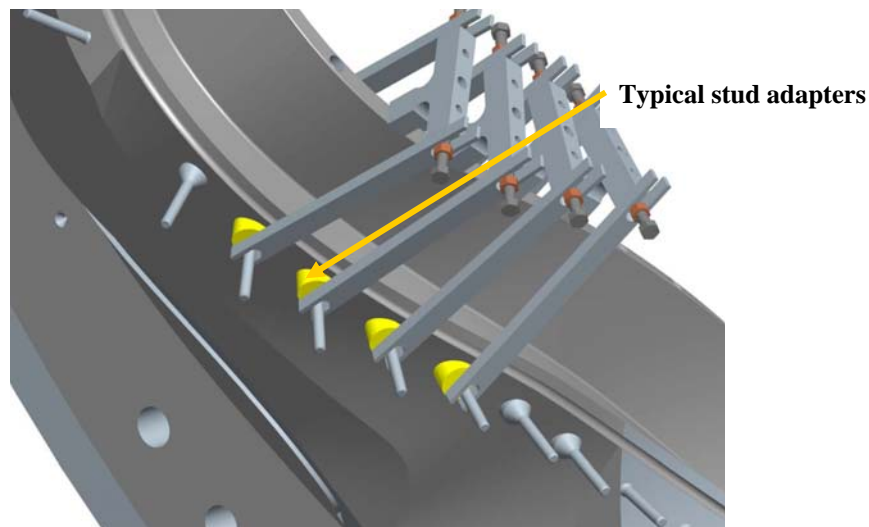

Figure 10- Typical Stud Adapters
- On some castings, due to the geometry of the winding form, it may be necessary to add stud adapters [Type C] or prosthetic section [type A and B] directly to the casting prior to the installation of studs. This information will be identified on the appropriate casting drawings. These adapters shall be Tig welded directly to the casting. See Figure 10- Typical Stud Adapters